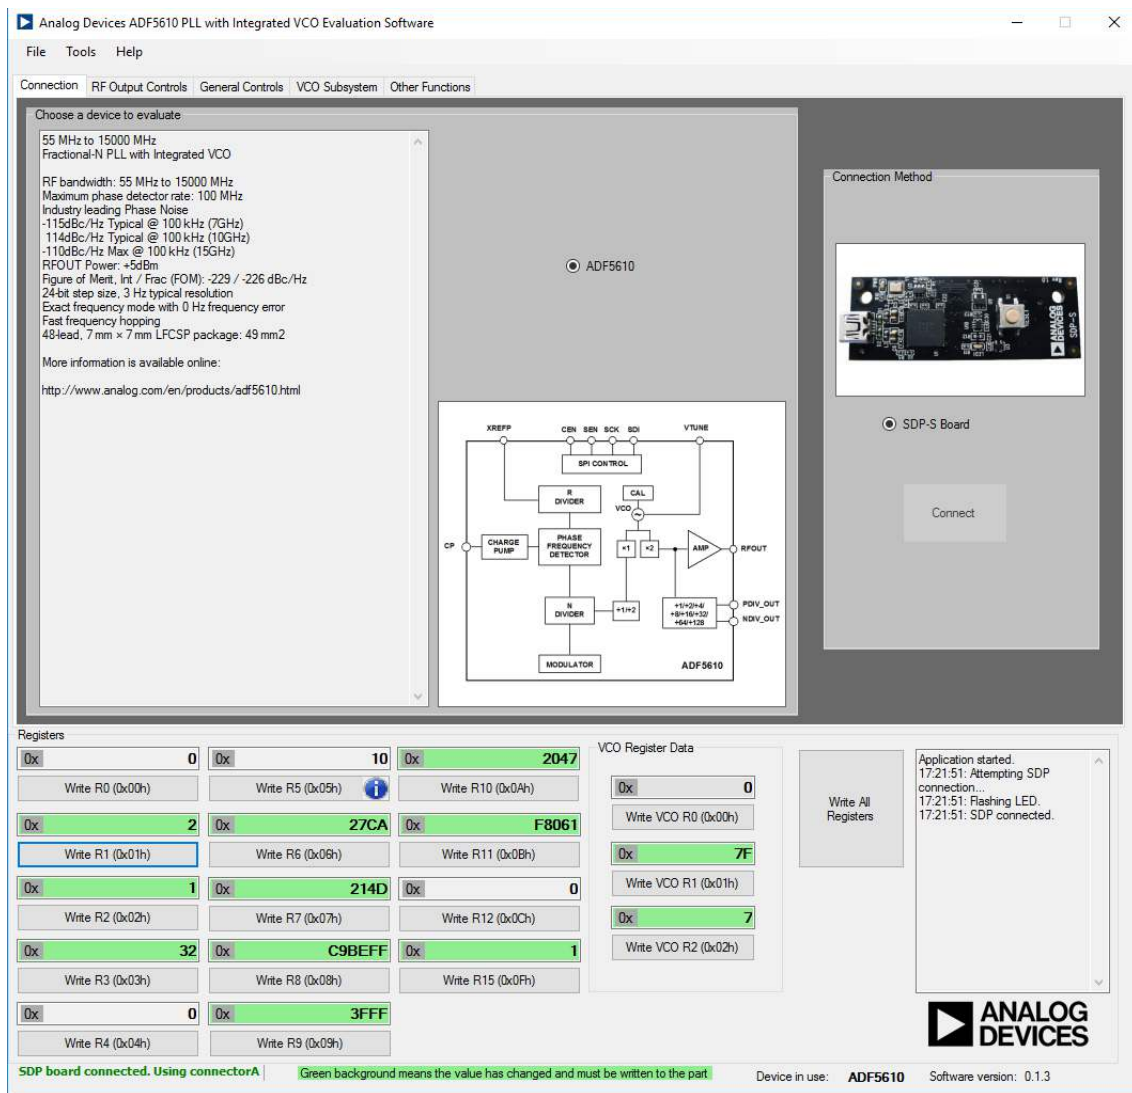

Figure 2. Software Front Panel Display, **Connection** Tab
2. In the **Connection** tab, select **ADF5610** and **SDP-S Board**. Click **Connect** (see Figure 2).
7. Select ADF5610 and SDP-S board in the **Connection** tab and click **Connect** (see Figure 2).